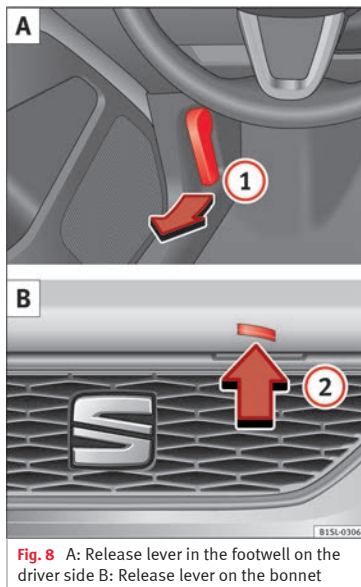

Fig. 8 A: Release lever in the footwell on the driver side B: Release lever on the bonnet
- Pull the release lever **1** in the direction of the arrow **»» Fig. 8 A**. The bonnet is released from the lock carrier by a spring mechanism **»» ⚠ in Working in the engine compartment on page 188**.